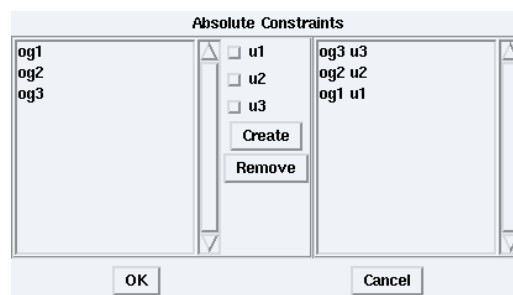

Figure 1.23: Constrain operation groups on operators of the architecture selected
- \* click on **OK** button (cf. figure 1.23),